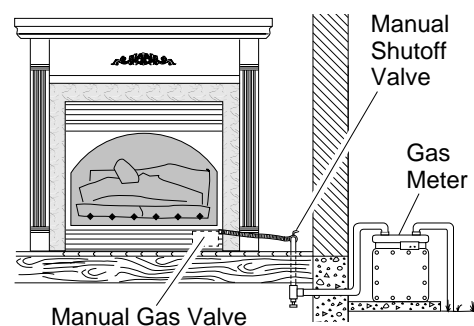

Figure 33 - Checking Gas Joints
3. Check all joints from gas meter to manual shutoff valve (see Figure 33). Apply mixture of liquid soap and water to gas joints. Bubbles forming show a leak.
4. Check all joints from manual shutoff valve to thermostat gas valve (see Figure 33). Apply mixture of liquid soap and water to gas joints. Bubbles forming show a leak.